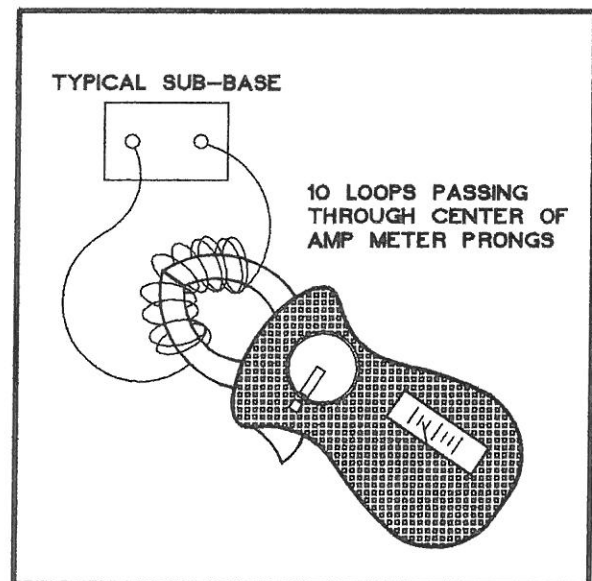

Figure 9
STEP 2. Connect the uninsulated ends of this wire jumper across terminals "R" and "W" on the sub-base ("RH" and "W" on multi-stage thermostat sub-base). See Figure 9. This test must be performed without the thermostat attached to the sub-base.